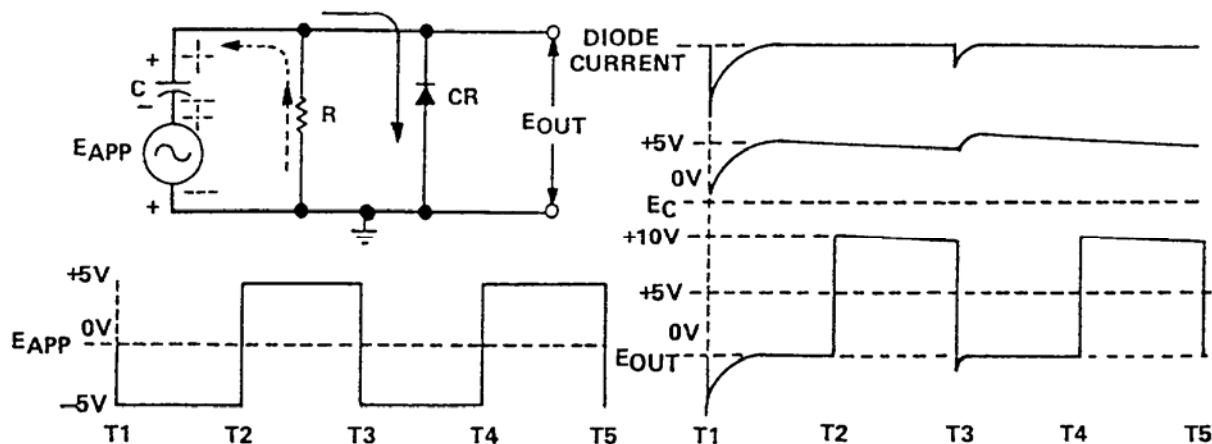

Figure O-1. Positive Diode Clamper with Zero Reference Level
In a positive or negative diode clamper with zero reference level (Figure O-1), if the resistor or diode were to short there would be no output. If the capacitor were to short, the circuit would act as a half-wave rectifier. An open in the diode would cause the output to appear with equal parts of the waveform above and below a zero reference.
(1) Initially the topside of C is at zero volts. When the negative half-cycle is coupled across C, the diode becomes forward-biased. Because the resistance of the diode is very small, current through the diode prevents the output terminal from going negative.
(2) Electrons are repelled from the top plate of C, effectively charging C to the peak value of the input square wave. The E_C waveform shows the rapid charge of C. When C is charged, the output voltage level is zero volt. As shown in Figure O-1, C charges to +5V. This action occurs from T1 to T2.